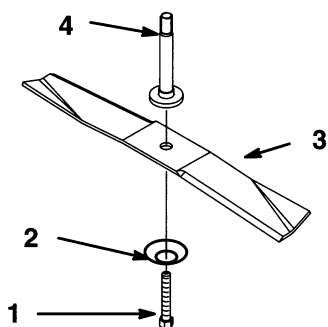

Figure 25
3. Remove the bolt, belleville washer and blade (Fig. 25). A block of wood may be wedged between the blade and the mower to lock the blade when you are removing the bolt.